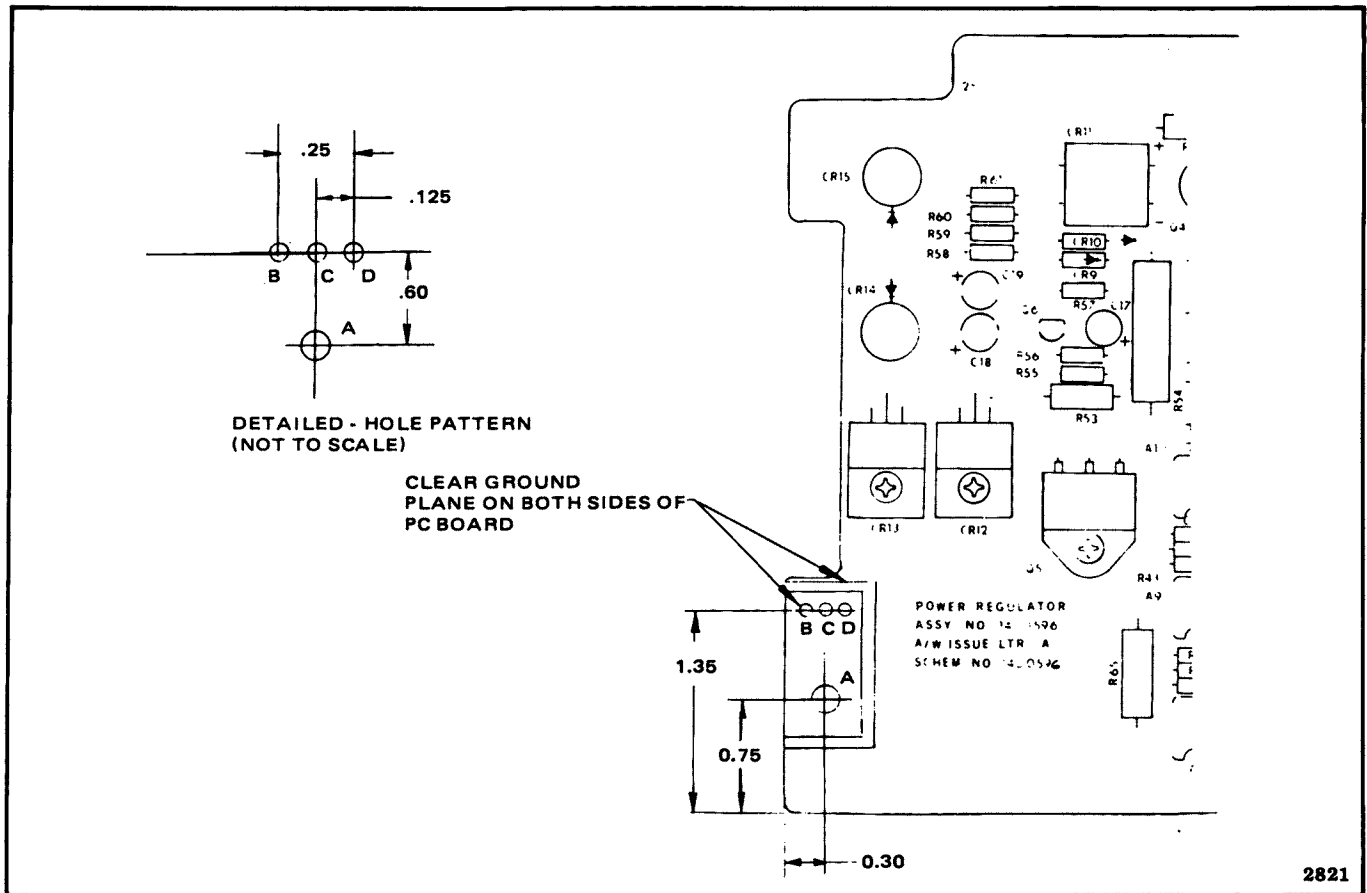
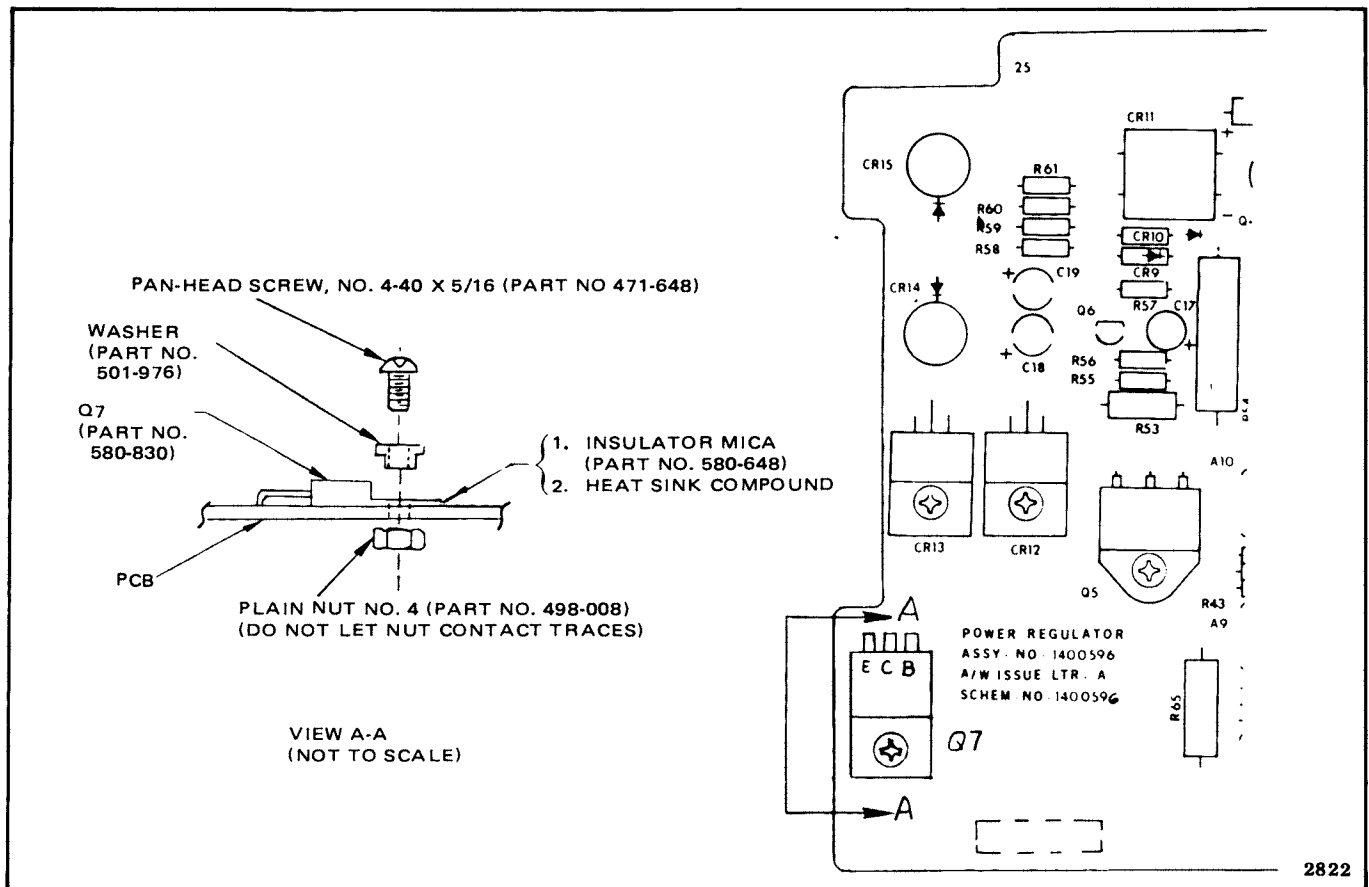

Figure 4. Hole Pattern
Figure 5. Transistor Q7 Mounting
- a. On the Power Regulator PWA (Figure 4) drill one 0.140-in. diameter hole (A) and three 0.050 in. diameter holes (B, C, and D). Clear ground plane on component and trace sides.
- c. Install transistor Q7, D44E2 (part no. 580-830) into holes A, B, C, and D as in Figure 4, and secure it as in Figure 5.